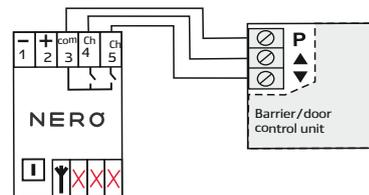

Figure 2 – Single-channel mode
**Single-channel mode (command duration is 1.5 s)** is used to control a single object. For example, a barrier: 1st channel is responsible for the UP direction, and the second - DOWN direction. In this case, control is performed by all remote controls recorded in both channels of the device (see Figure 2).